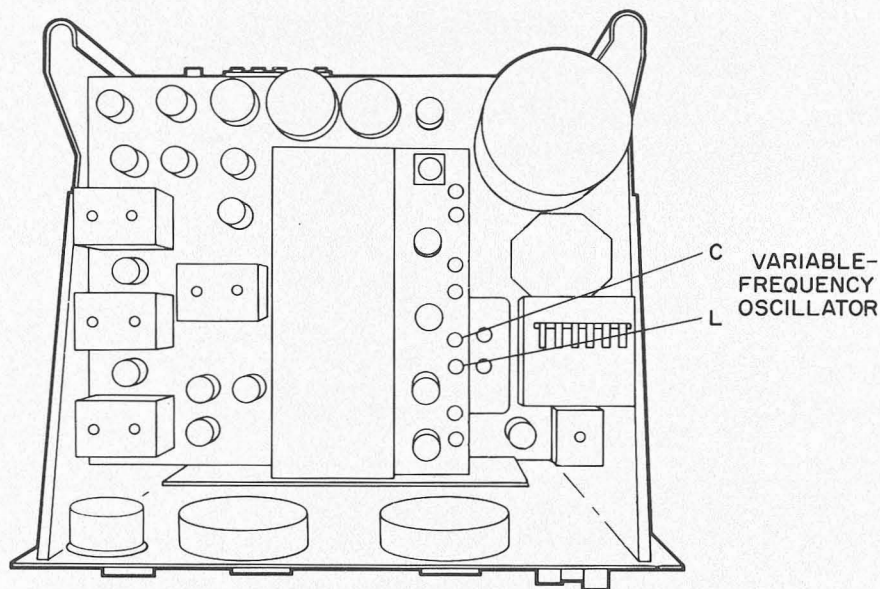
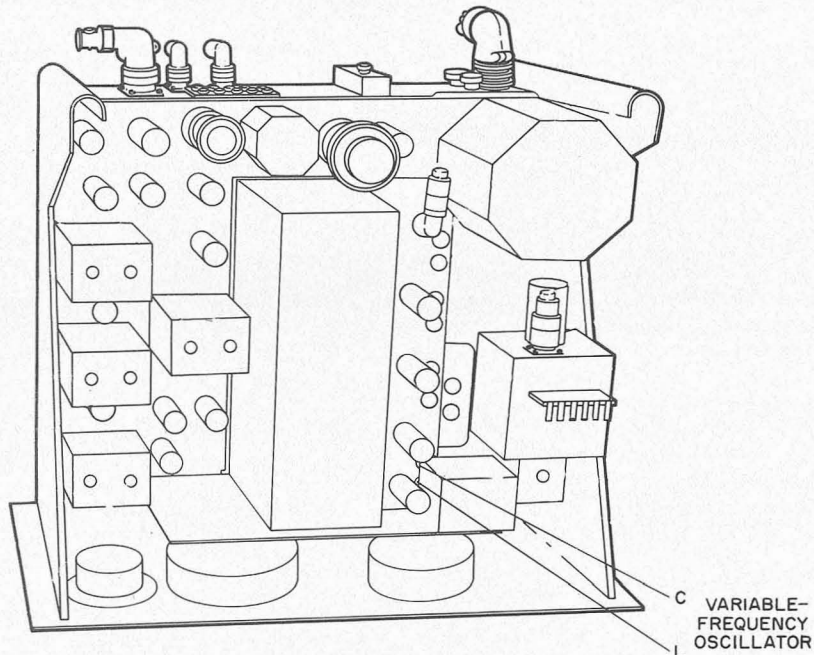

Figure 2-3. Radio Receiver SP-600-JX-21, Top View of R-F Section
Figure 2-4. Radio Receiver SP-600-JX-17, Top View
- (2) Set the MOD-CW switch on the radio receiver to the MOD position.
- (3) Set the SELECTIVITY switch on the radio receiver to the 3 NON-XTAL position.
- (4) Set the MULTIPLIER switch on the signal generator to the .1 position and adjust the CARRIER CONTROL until an indication of 100 is obtained on the output meter of the signal generator.
- (5) Adjust the MICROVOLTS control on the signal generator until an indication of 30 is obtained on the upper scale of the signal generator output meter.
- (6) Set the MOD SELECTOR switch on the signal generator to the 400 cycle position.
- (7) Set the METER READS switch on the signal generator to the % MOD position and adjust the % MODULATION control until an indication of 30 is obtained on the lower scale of the signal generator output meter.
- (8) Set the METER READS switch on the signal generator to the RF position .
- (9) Rotate the BAND CHANGE switch on the radio receiver until the indication 0. 54-1. 35 appears in the MEGACYCLES window.
- (10) Rotate the radio receiver TUNING control until an indication of 0. 56 megacycle is obtained on the main tuning and vernier dials.
- (11) Adjust the AUDIO GAIN control on the radio receiver until an indication of 2. 45 volts is obtained on the multimeter.
- (12) Refer to figure 2-3 for radio receiver SP-600-JX-21 or figure 2-4 for Radio Receiver SP-600-JX-17. Remove the metal cap and adjust variable-frequency oscillator L until a maximum indication is obtained on the multimeter.
- (19) Set the MOD SELECTOR switch on the signal generator to the 400 cycle position.
- (20) Refer to figure 2-3 for Radio Receiver SP-600-JX-21 or figure 2-4 for Radio Receiver SP-600-JX-17. Remove the metal cap and adjust variable-frequency oscillator C until a maximum indication is obtained on the multimeter.
- (21) Rotate the CARRIER CONTROL on the signal generator fully counterclockwise and the MICROVOLTS control on the signal generator fully clockwise.
- (22) Set the MOD SELECTOR switch on the signal generator to the OFF position.
- (23) Repeat step b. (4) through (6) and (8) through (22).
- (24) Rotate the signal generator tuning dial until an indication of 1.4 megacycles is obtained on the frequency and index scales.
- (25) Rotate the BAND CHANGE switch on the radio receiver until the band indication 1.35-3.45 appears in the MEGACYCLES window.
- (26) Rotate the radio receiver TUNING control until an indication of 1.4 megacycles is obtained on the main tuning and vernier dials.
- (27) Repeat step b. (17) through (19).
- (28) Refer to figure 2-3 for Radio Receiver SP-600-JX-21 or figure 2-4 for Radio Receiver SP-600-JX-17. Adjust variable-frequency oscillator L until a maximum indication is obtained on the multimeter.
- (29) Repeat step b. (13) and (14).
- (30) Set the FREQUENCY BAND SWITCH on the signal generator to the Band F position and rotate the signal generator tuning dial until an indication of 3.4 megacycles is obtained on the frequency and index scales.
- (31) Rotate the radio receiver TUNING control until an indication of 3.4 megacycles is obtained on the main tuning and vernier dials.
- (32) Repeat step b. (17) through (19).
- (33) Refer to figure 2-3 for Radio Receiver SP-600-JX-21 or figure 2-4 for Radio Receiver SP-600-JX-17. Adjust variable-frequency oscillator C until a maximum indication is obtained on the multimeter.
- (34) Rotate the CARRIER CONTROL on the signal generator fully counterclockwise and the MICROVOLTS control on the signal generator fully clockwise.
- (35) Set the MOD SELECTOR switch on the signal generator to the OFF position.
- (36) Repeat step b. (24) through (35).
- (37) Rotate the signal generator tuning dial until an indication of 3.75 megacycles is obtained on the frequency and index scales.